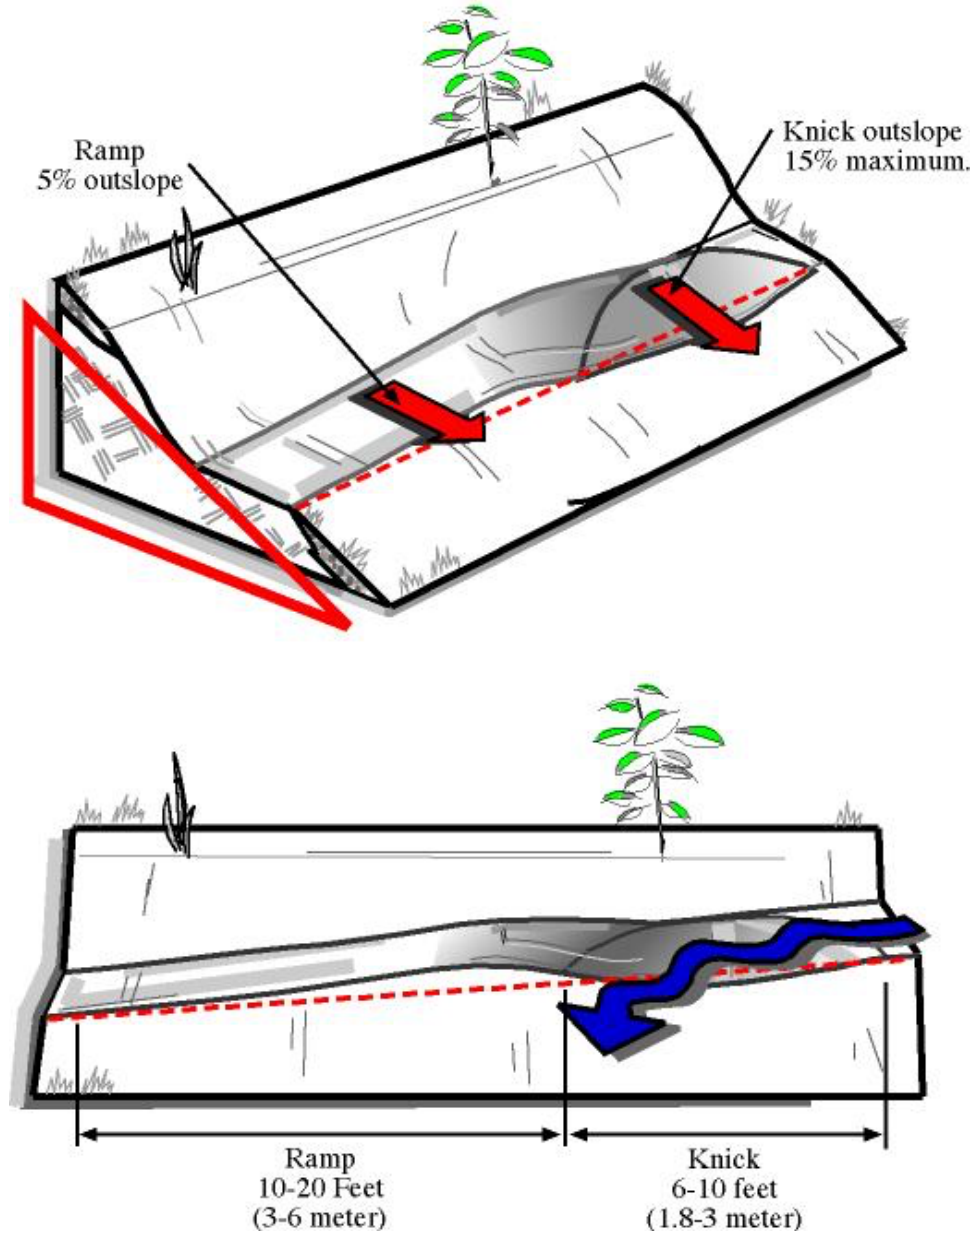

Figure 7: Rolling Grade Dip
7.4 Rolling Grade Dip (Figure 7)